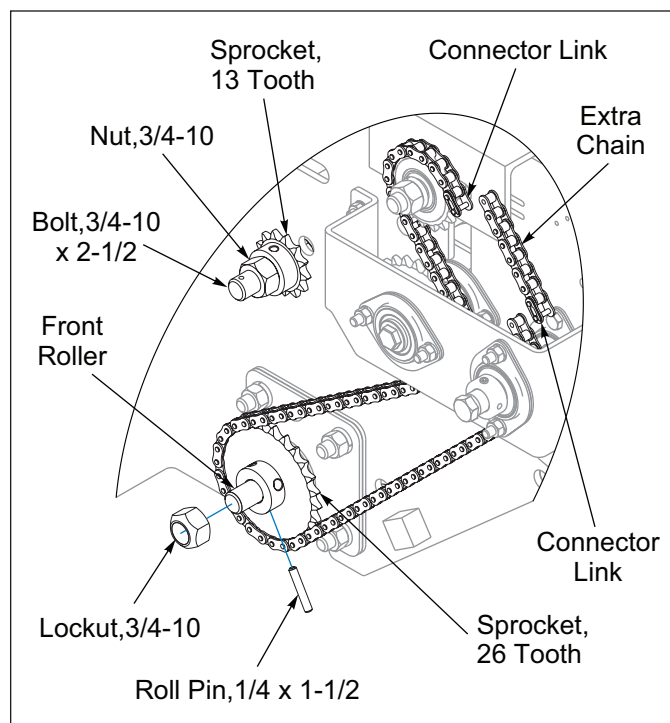

Figure 3-13: Speed Up Kit (2 of 2)
5. Add extra Chain (8 Links including Connector Link) to Drive Chain. **See Figure 3-13.**